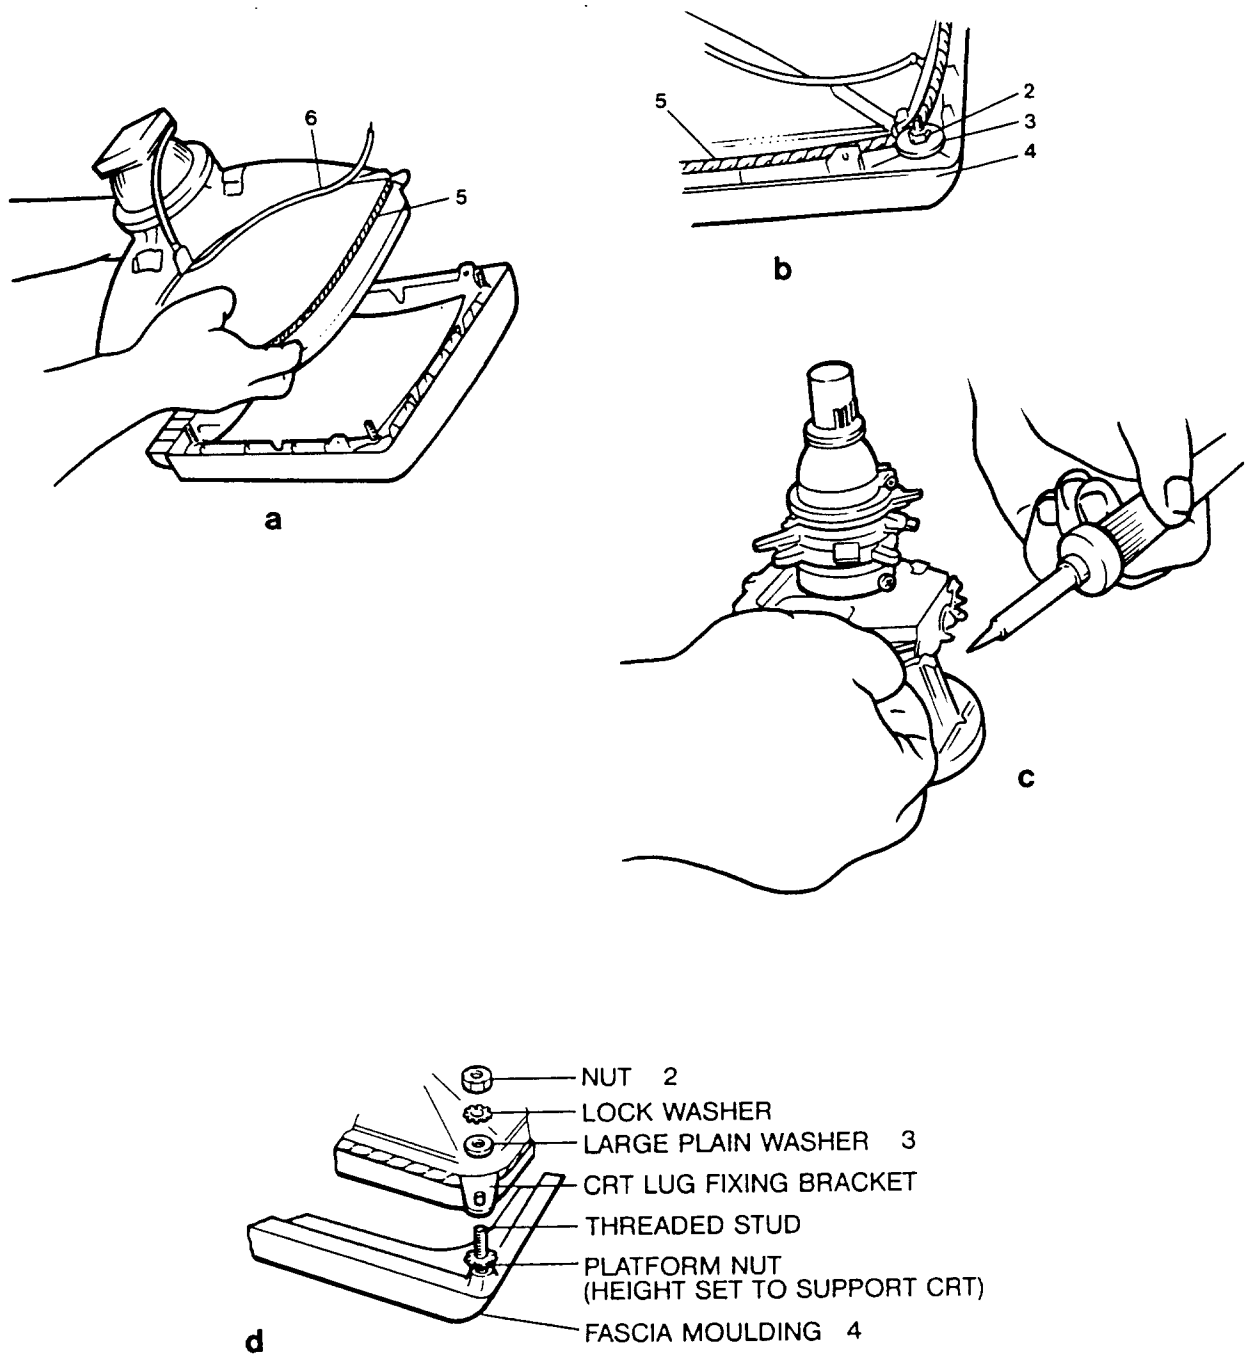

FIG 1 CRT REMOVAL/INSTALLATION
4. Referring to Figure 1, CRT Removal/Installation, remove the four nuts and four lock washers (2) and the four larger washers (3) securing the CRT to the cabinet fascia (4) (Figure 1b).
6. Transfer degauss coil (5) and earthing braid (6)